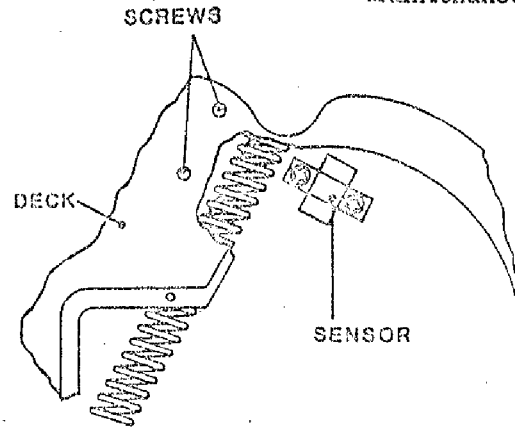

Figure 5-12. Supply Arm Limit Sensor
5.3.16 SUPPLY ARM LIMIT SENSOR (Figure 5-12)